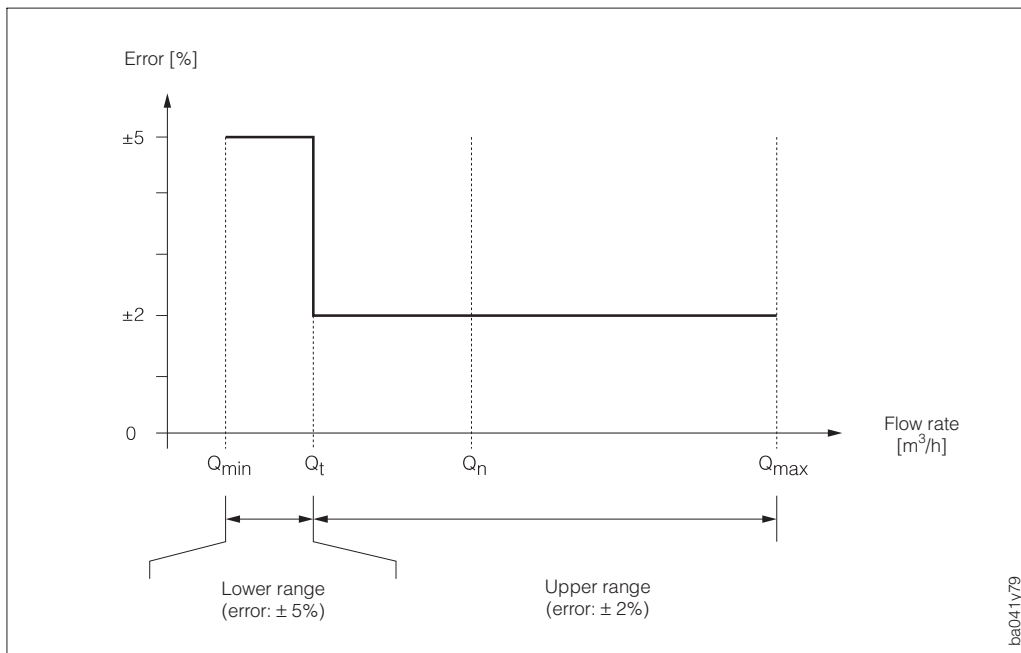

Fig. 35
- Q_t "Transitional flow rate", which separates the lower from the upper maximum permissible range. Lower or upper range differ from each other by the permitted error limits for custody transfer measurements (see Fig. 35):